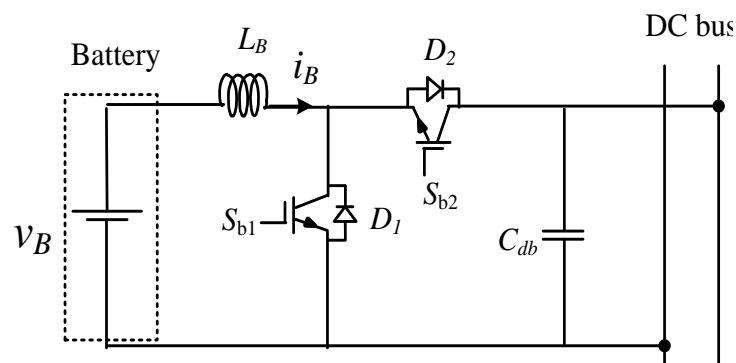

Fig. 4 Conventional bi-directional boost converter
**Suggested Topology:** Conventional Bi-directional Boost converter as shown in Fig. 4.
Suggested Topology: H-bridge Buck Boost converter as shown in Fig. 4